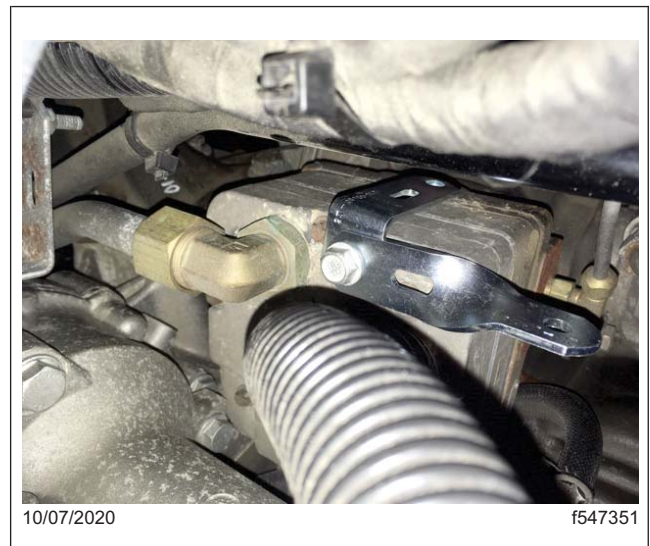

Fig. 17, New Standoff Bracket
- 2.2 Install the new brackets onto the top of air compressor where existing standoff was removed. See **Fig. 17**. Install the parts in the following order: